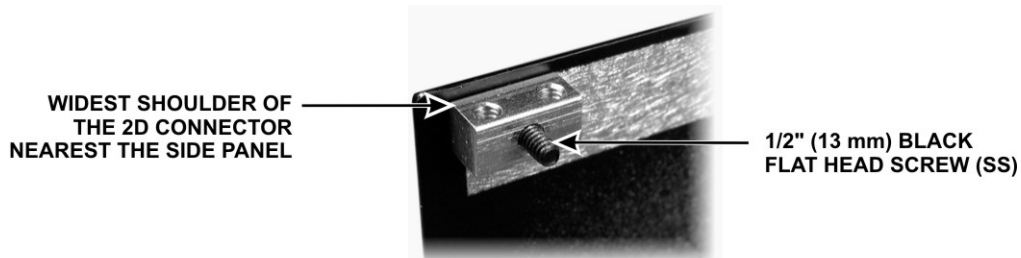

Figure 72. Mounting 2D fastener for KANT3A or KAT3A Standoff.
At the upper rear corner of the side panel you just identified in the previous step, mount a 2D fastener as shown in Figure 72, using a black 4-40 1/2" (13 mm) flat head screw (SS). Remember that flat head screws are measured from the flat top to the end of the threads. Note that the screw extends some distance through the 2D fastener.